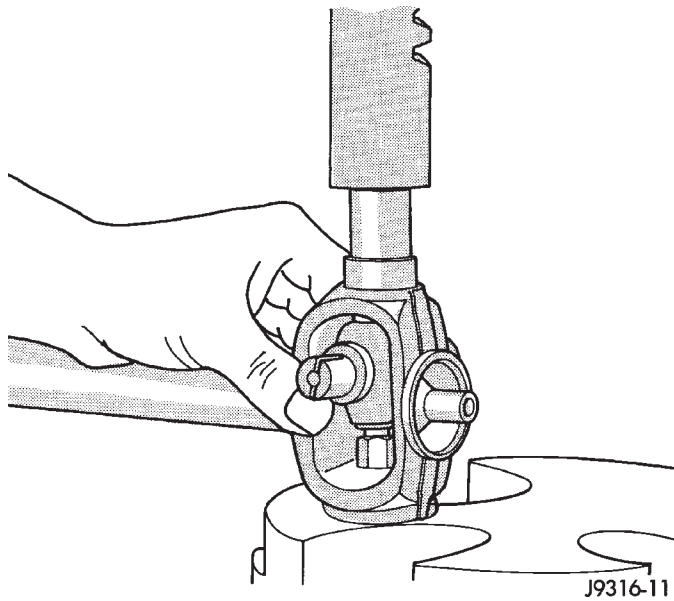

Fig. 29 Press In Bearing Cap
(4) Press the bearing cap into the yoke bore enough to install a snap ring (Fig. 29).
(5) Install a snap ring.